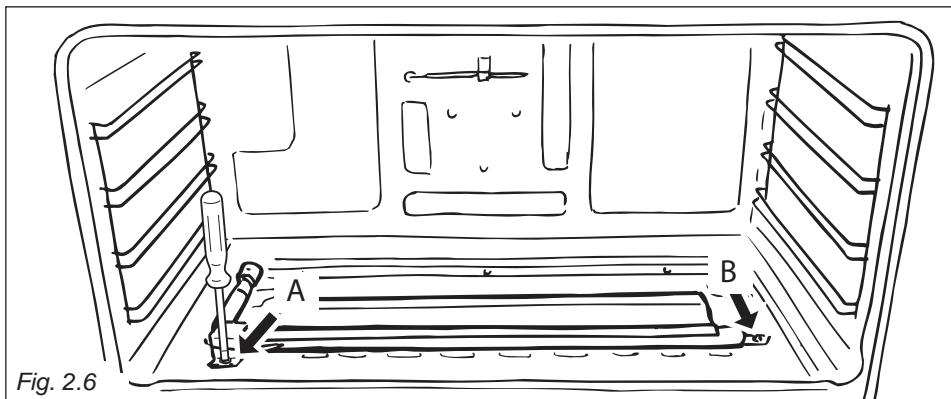

Fig. 2.6
- Unscrew and remove the burner securing screw "A" (fig. 2.6).
- Slacken screw "B" (fig. 2.6).